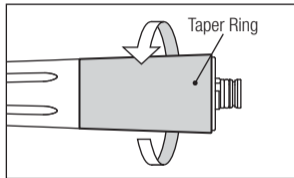

Fig. 14
- 1) Loosen and Remove the taper ring at the rear of the handpiece. (X450L/X450) (Fig. 14)